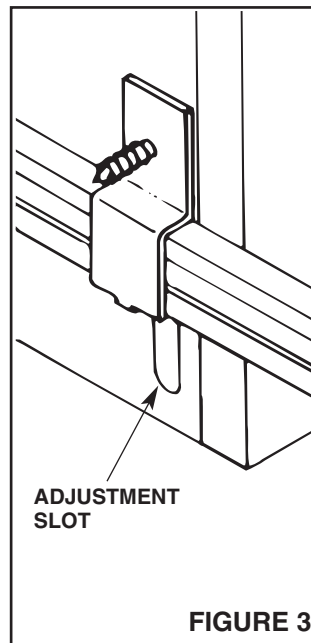

FIGURE 3
3. **Refer to Figure 3.** Slide hanger bar brackets down to end of slot closest to outside edge of housing. Tighten brackets in this position.